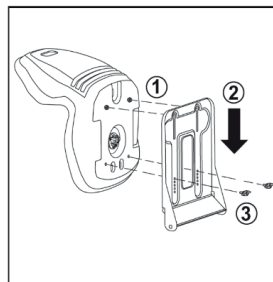

FIG.2A
2. CHOOSE ONE OF THE FIVE HOLES IN THE SEAT AND THREAD THE WING SCREWS (A) INTO THE HOLES. SECURE WITH THE PROVIDED WING NUTS (B). YOU CAN MOVE THE SEAT TO THE DESIRED POSITION BY SELECTING FROM THE FIVE DIFFERENT HOLES. (FIG.2A)